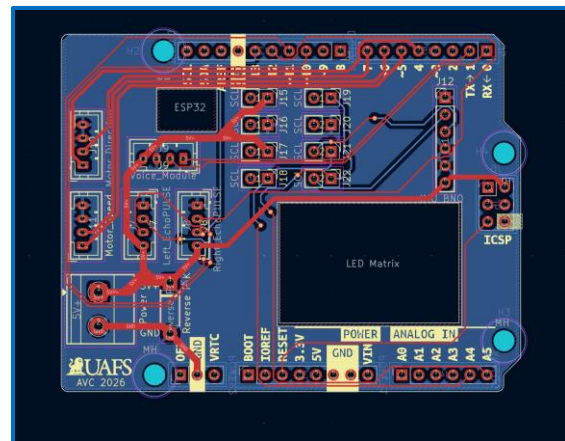
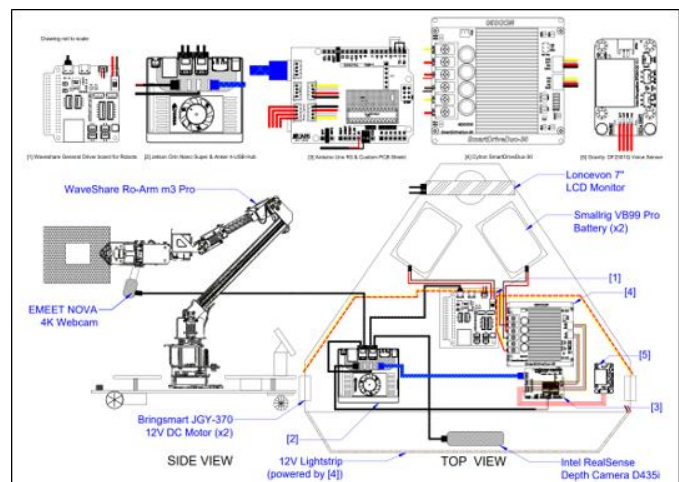

Fig. 8: PCB board "HAT" routing.
Fig. 10: Electrical overview.
- Fig. 8-Fig. 10: Electrical schematics and description